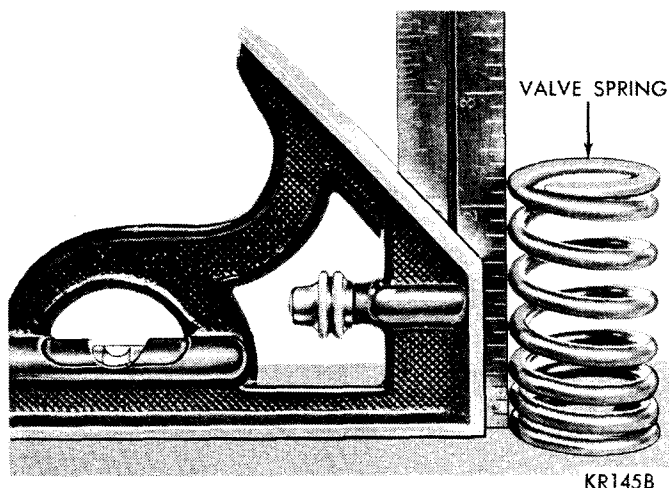

Fig. 14—Inspecting Valve Spring Squareness
(2) Inspect each valve spring for squareness with a steel square and surface plate, test springs from both ends (Fig. 14).